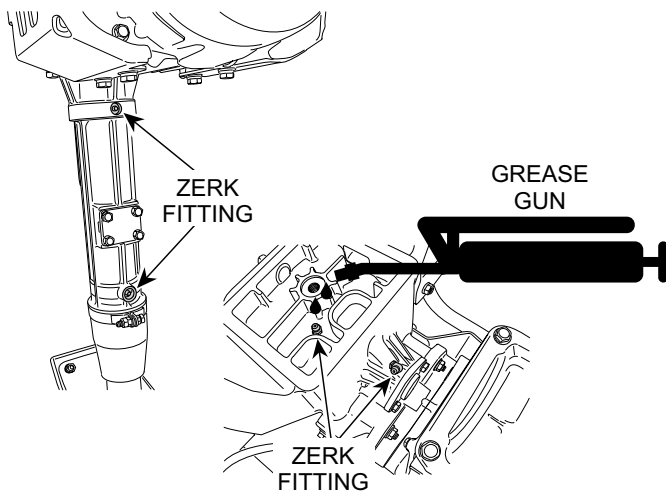

Figure 4. Lubrication Points
1. There are **four** grease fittings (Figure 4) that require lubrication of the main spring and crankcase. Lubricate these fittings as outlined in the maintenance section of this manual.